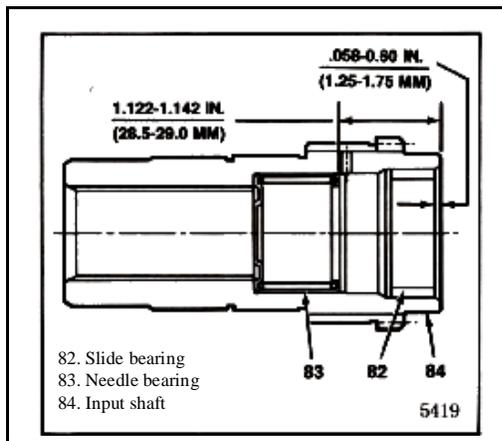
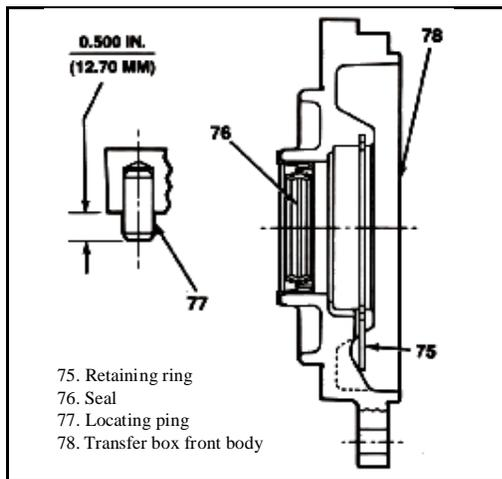

Fig. 5-9
Fig. 5-10
5. Place needle bearing (83), if removed, and press it into the input shaft as shown in Fig. 5-9. At the same time, press in new sliding bearing (82) to complete the whole input shaft assembly (81) as shown in Fig. 5-9.
6. Lift planetary mechanism assembly (86) and install it into input shaft assembly (81), install thrust pad (85), and press in bearing (80) through the end of input shaft. Install retaining ring (79) into the retaining ring groove on the input shaft to retain the bearing.
7. Install a new locating pin (77), if removed, into the front body as shown in Fig. 5-10.
8. Place the seal and press it into the front body as shown in Fig. 5-10.
9. Place front body assembly (84) on two wooden blocks, with the bonding face of casing (111) upward, to gap input shaft assembly (81) and the working bench. Place the well assembled input shaft and planetary mechanism assembly (Parts 79-90) in the front body with input shaft downward. Expand the long end of retaining ring (75), and install input shaft and planetary mechanism assembly until the retaining ring enters into its groove on the outer race of bearing (80).
11. Then tighten 6 bolts (73) to the torque of 27~46 N.m.
12. Install and tighten vent valve (72) to the torque of 27~46 N.m.